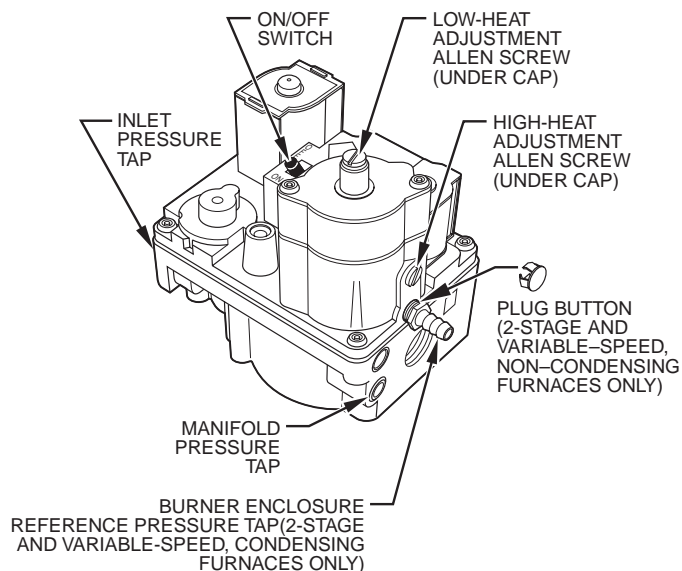

Fig. 16B—Two-Stage Gas Valve
2. Remove caps that conceal adjustment screws for high-and low-heat stage gas valve regulators. (See Fig. 16B.)
- a. Remove caps that conceal adjustment screws for gas-valve regulators. (See Fig. 16B.)